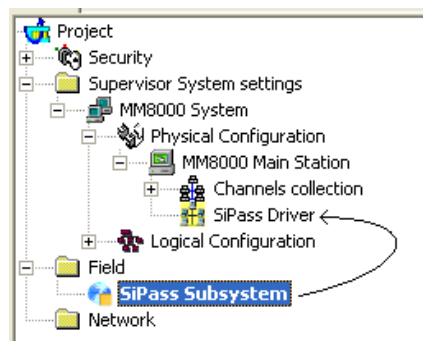

Fig. 3 Linking the SiPass subsystem
2. Drag and drop it on the **SiPass Driver** (Fig. 3).